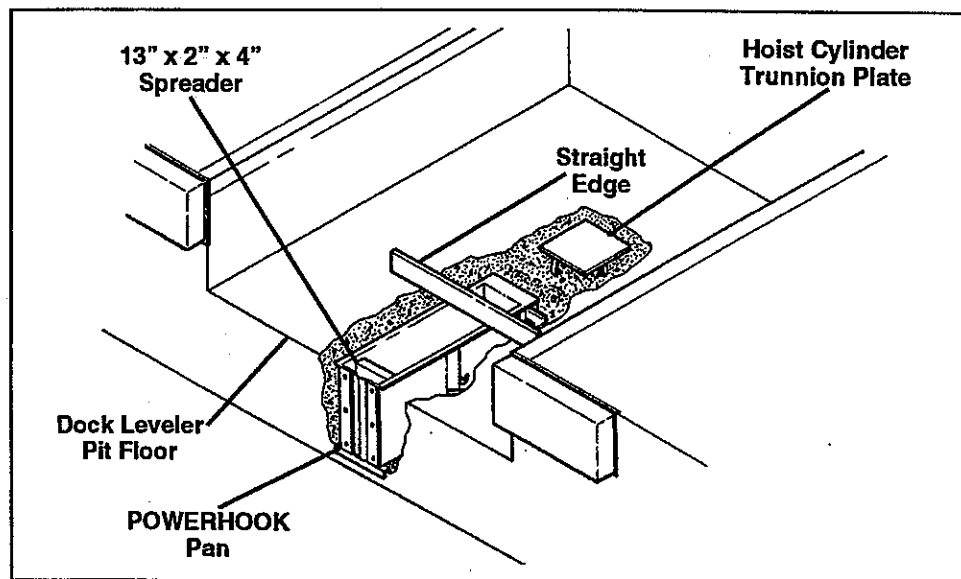

Fig. 9. POWERHOOK Pan and Trunnion Plate In Pit
17. Set the truck restraint pan into the pit. Insert 13" x 2" x 4" spreader into pan to reinforce during concrete pouring. Make sure that the pan is square in the pit and flush with the pit floor and front dock wall. See Figure 9.